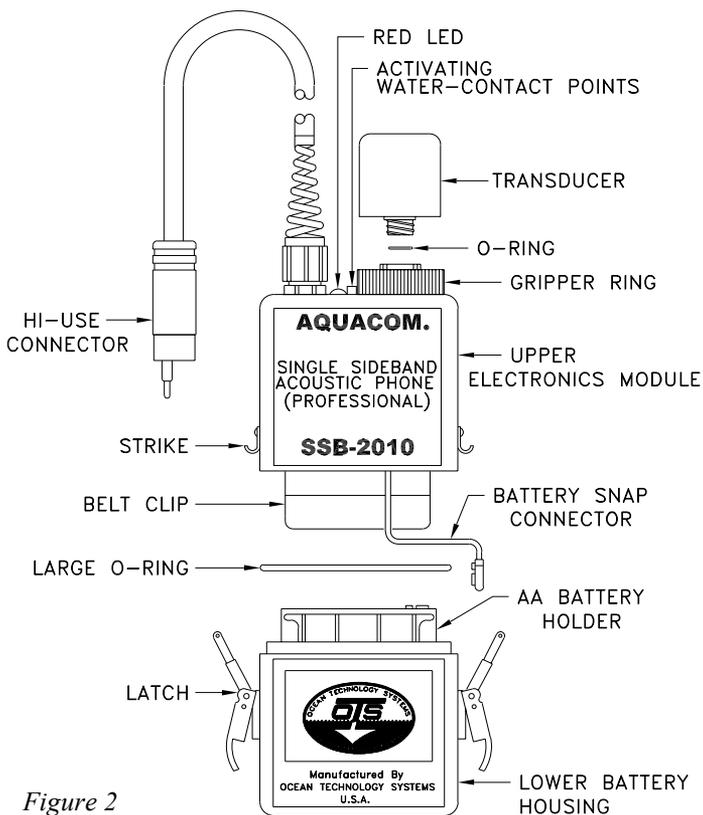

Figure 2
The housing is divided into two major parts: the upper electronics and the lower battery sections (Figure 2). An o-ring between the sections serves to maintain the housing's watertight integrity. Stainless steel latches maintain a constant pressure that pre-loads the o-ring and prevents leakage within specified depths. (Note: The upper and lower housings are a matched set; do not mix them up with those of other transceivers.)
**2.10.1 Transducer:** The transducer provides the "antenna" for the transceiver. It is removable via a connector mounted on the top of the housing. A large ring provides a means to easily remove and reinstall the transducer (Figure 2). When using the RB-11 nickel-metal hydride (NiMH) battery pack (optional with the SSB-2010), the transducer's housing connector is also utilized to charge the NiMH battery pack (see the Battery Installation and Charging section). This feature makes it easy to charge the NiMH battery pack without having to open the transceiver.
STEP 5: Locate the two activating water-contact screws on the top of the upper module between the transducer gripper ring and the red LED (Figure 2). Moisten your fingers and place them across the screws to activate the unit (hold onto the screws about 10 seconds). The unit will stay on for approximately 2 minutes out of water. The red LED will illuminate while power is on.